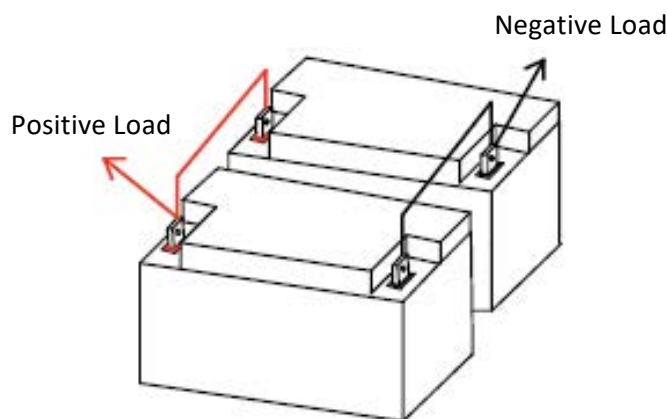

Figure 3: Two 10012 | 10012H Batteries connected in Parallel to create a 12V 200Ah Battery Bank
Multiple BB10012 | BB10012H batteries may be connected in parallel to increase the capacity and current of the system. When batteries are connected in parallel, the voltage of the system does not change, but the capacity and current limits are additive. For example, two BB10012 | BB10012H batteries connected in parallel (shown in Fig. 3) create a 12V 200Ah bank that can deliver 200A continuously and 400A for 30 seconds.
7. Repeat steps 3-6 for additional batteries in the system. An example of a finished connection can be found below in Fig. 3.